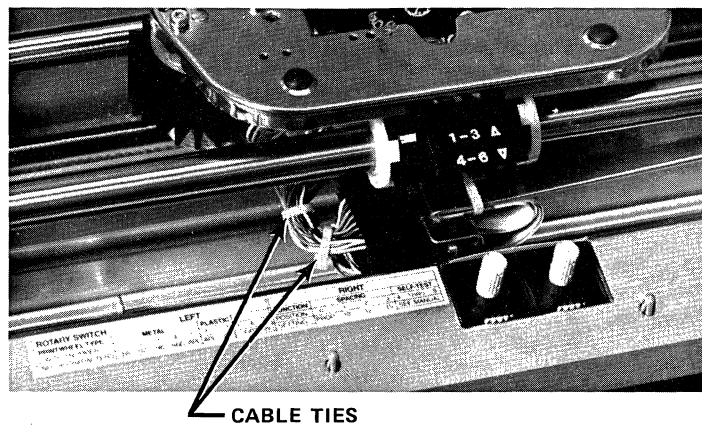

Figure 4-21. RIBBON DECK CABLE TIES
- 3) Remove the two cable ties located near the carriage cable connectors (Fig. 4-21). (In some units, only one cable tie is used here.)